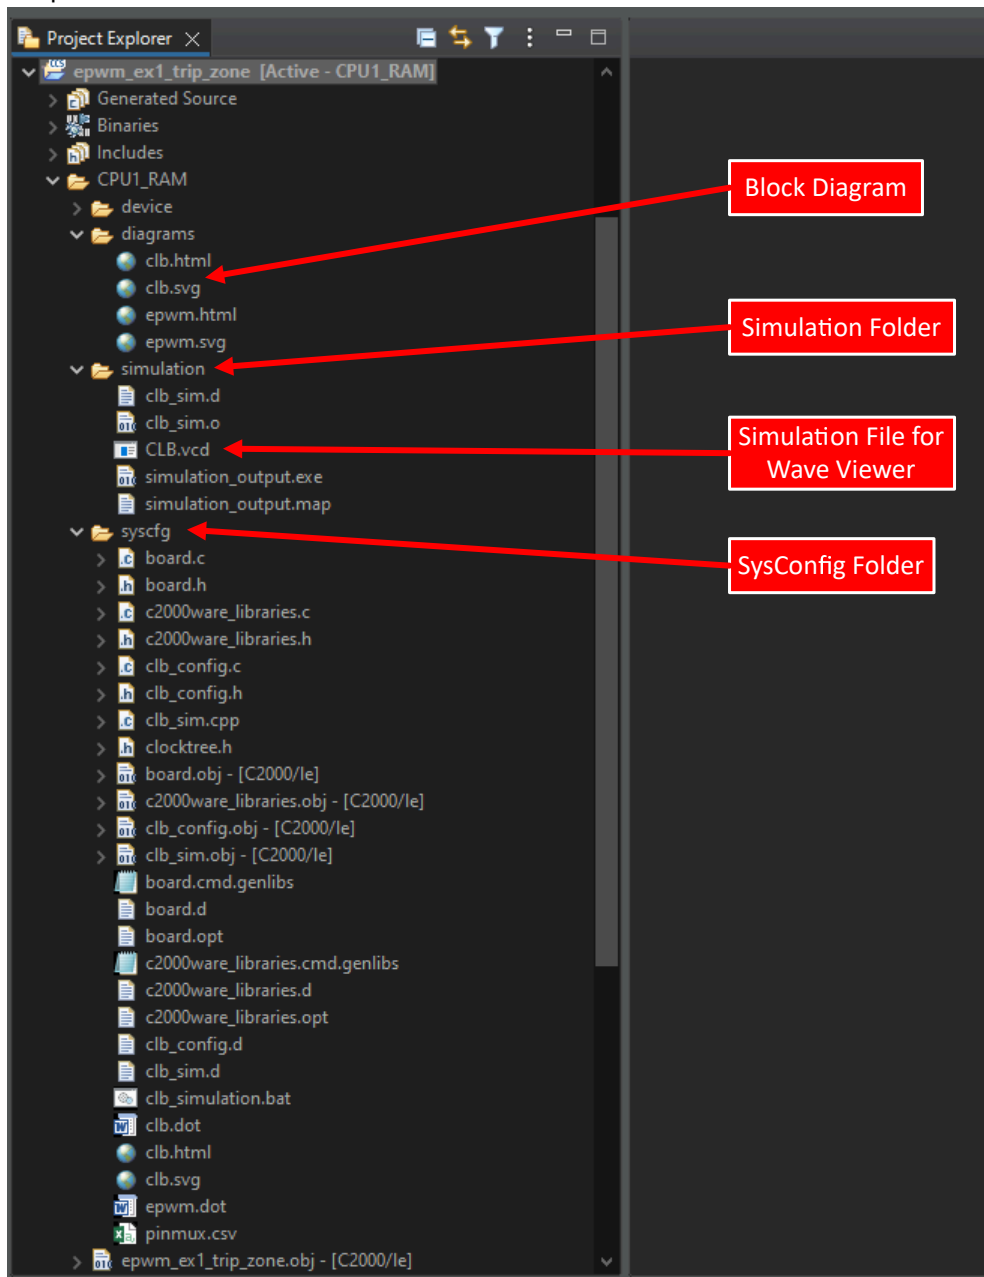

Figure 5-5. epwm_ex1_trip_zone With CLB Tool Support
- After building the project, the content generated by the CLB Tool will be present in the build configuration directory. Figure 5-5 shows an example of this after adding CLB support to the epwm_ex1_trip_zone driverlib example.